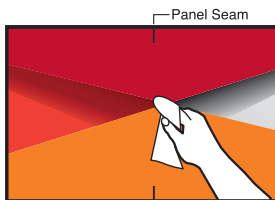

FIGURE 9
8. Wipe with paper towel. (FIGURE 9)